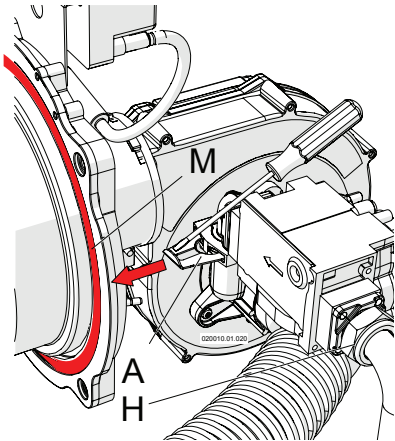
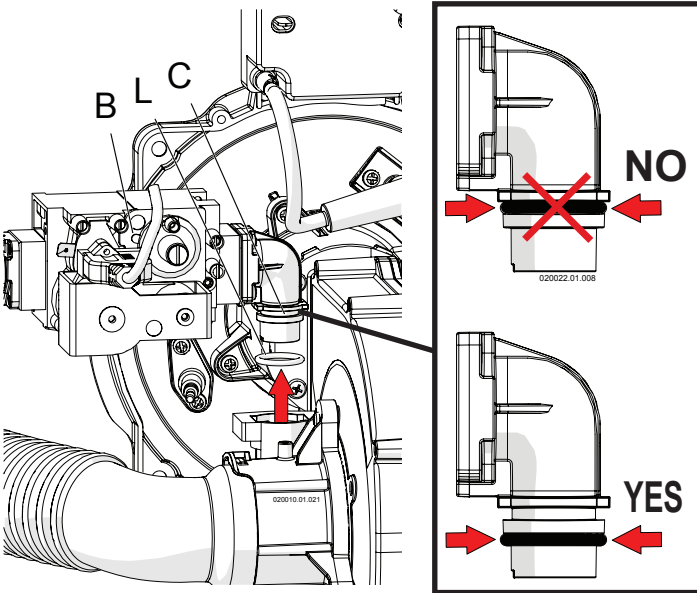

Figure 16-2 – Removing the gas valve
Figure 16-3 - Raising gas valve
- 4 - Undo junction "H" in figure 16-2;
- 5 - With the aid of a screwdriver, remove fork "A" in figure 16-2;
- 6 - Remove the gas valve with junction "C" as in figure 16-3 (paying attention to the OR "L" in figure 16-3);
- 8 - Replace the gas valve paying attention to the correct position of the OR "L" in figure 16-3 and to the joint gasket "H" in figure 16-2;
- 10 - Tighten joint "H" in figure 16-2;
- 12 - Check that there are no leaks from joint "H" in figure 16-2;